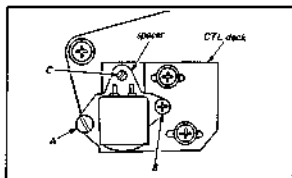

Fig. 4-9.
2. Remove the screws labelled A and B in Fig. 4-9 and lift the head assembly off the mounting plate. Be careful not to lose the Spring on the left screw.
on the Connector Panel and set the VTVM to ac (terminate the LINE OUT connector with a 100 kΩ resistor.) Thread the standard tape and play the 7 kHz audio signal. Adjust screws B (azimuth adjust) and C in Fig. 4-9 for maximum indication on the VTVM.